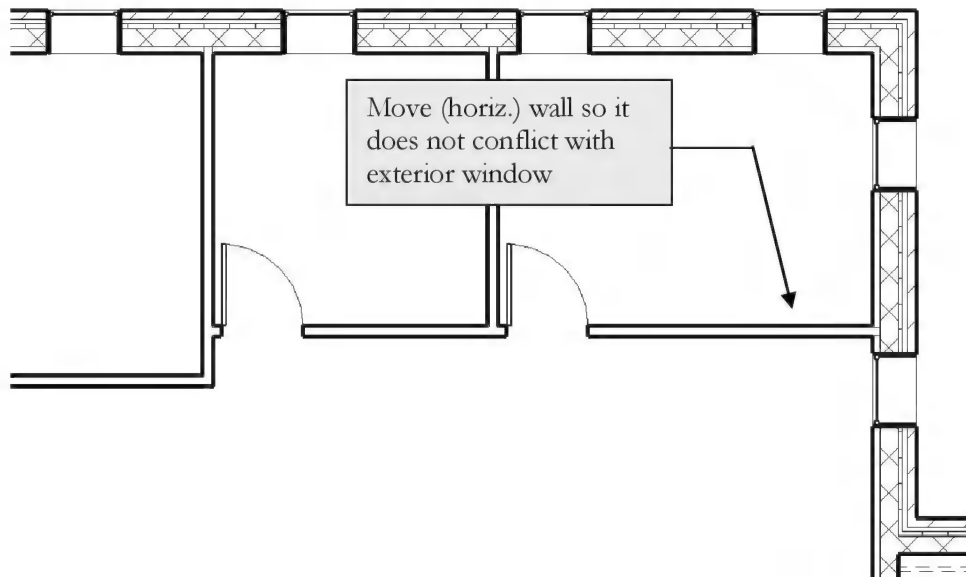

FIGURE 8-2.5 Level 1 – north-east corner
9. Switch to **Level 1** plan view and revise the wall as shown in **Figure 8-2.5**.